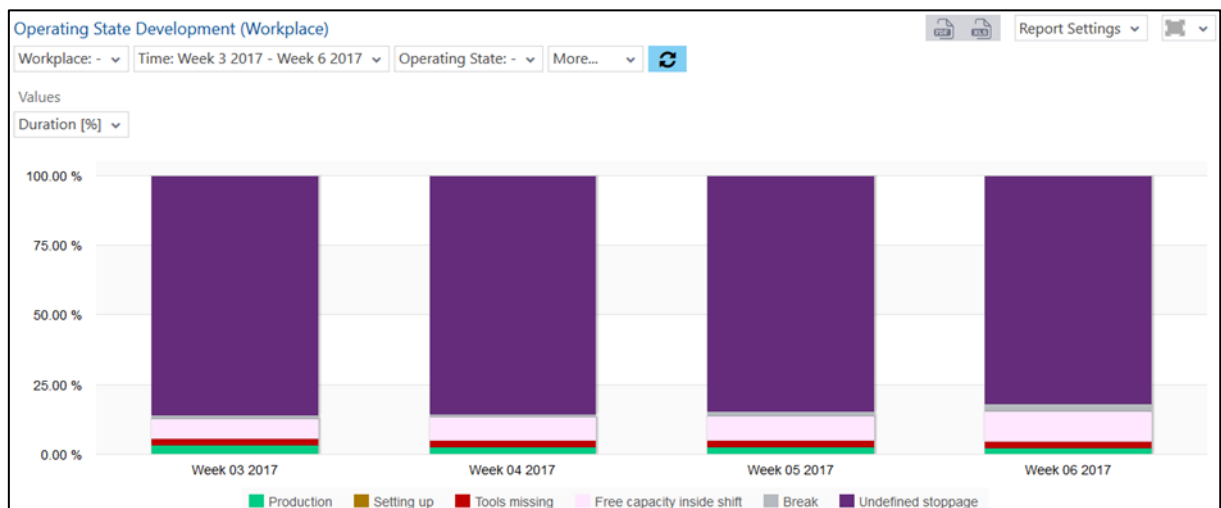

Fig. 61: Operating state development (workplace) as column chart
- Operating state development (workplace) as column chart (fig. 61):